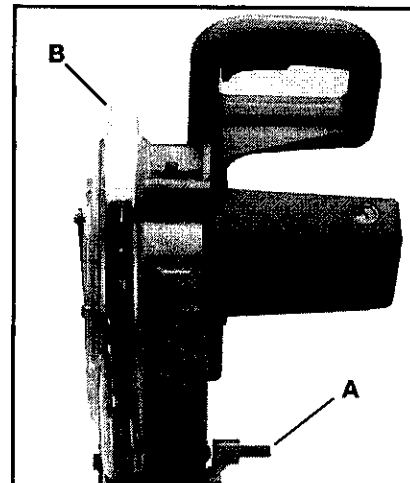

Fig. 5
2. Fig. 5, illustrates the lockpin (A) pulled out and the cuttinghead (B) in the up position.